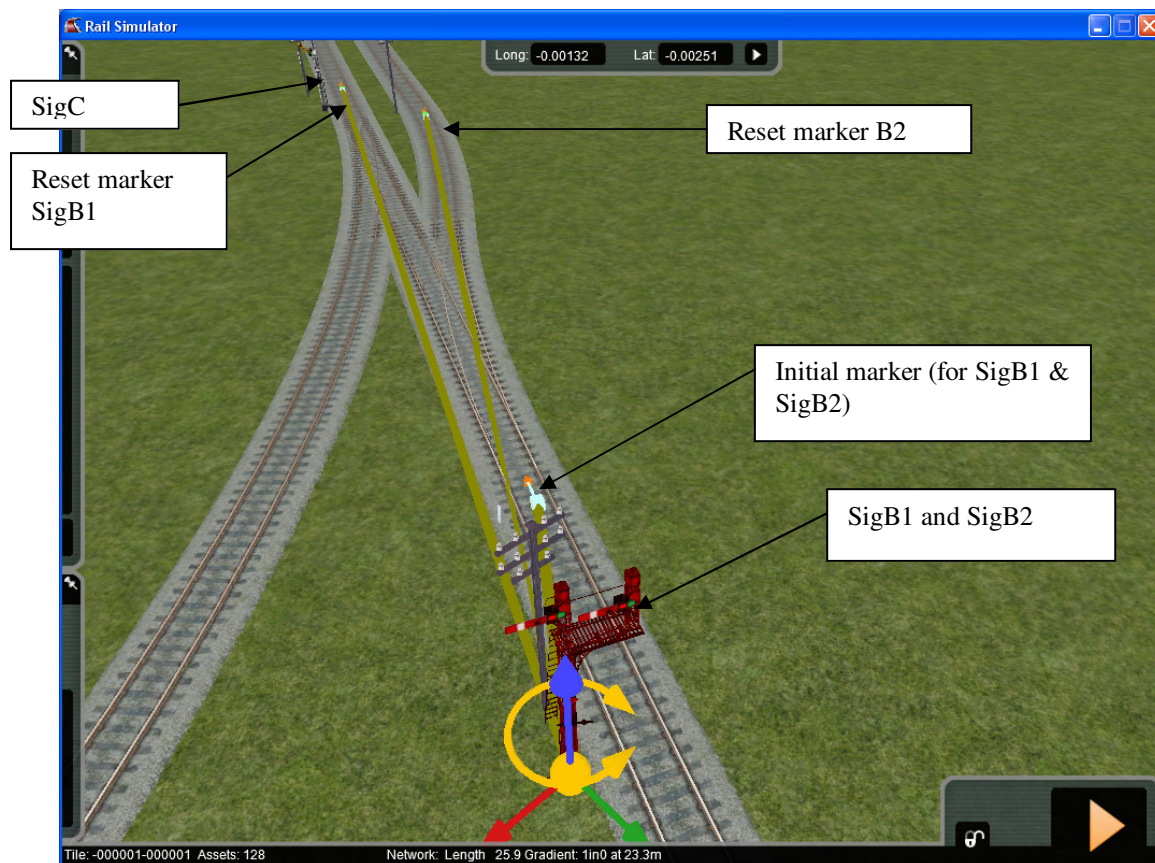

Figure 4 Set-up for "juncsig 12-hh"
Position the signal as described above to the rear of the junction points. Place the first (Initial) marker in advance of the signal, but before the points. Then place the next (Route) marker (1) along the left-hand (primary) route so that it is ahead of the all the point work required to be monitored by the left hand arm of the signal. Having placed this marker you will then have a third (Route) marker (2) which should be placed along the right-hand (secondary) route again ahead of all the point work to be detected. See Fig.4.